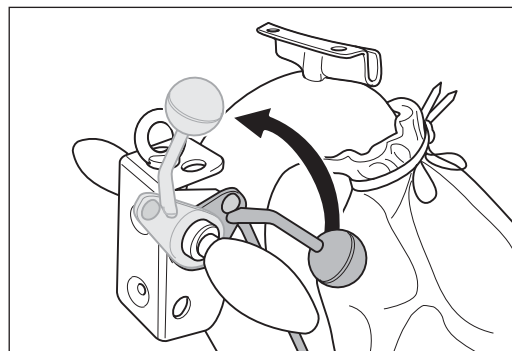

Fig. 93 Lift the sanding drum off the floor by turning the lowering lever at the handle upwards
- 1 Lift the sanding drum off the floor by turning the lowering lever at the handle upwards (Fig. 93).